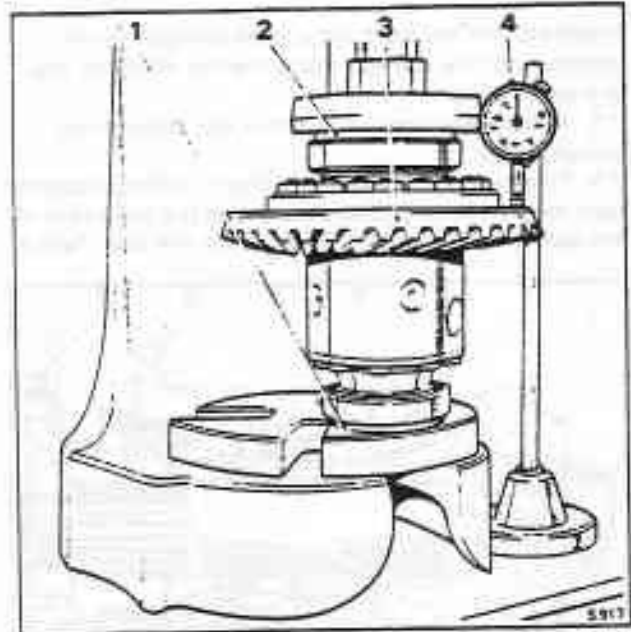

Fig. J1-7 Checking the crown wheel
13. Place the roller bearing outer tracks in position and stand the assembly on one end. Position the assembly in a press with one adjusting washer fitted to each bearing (see fig. J1-7).